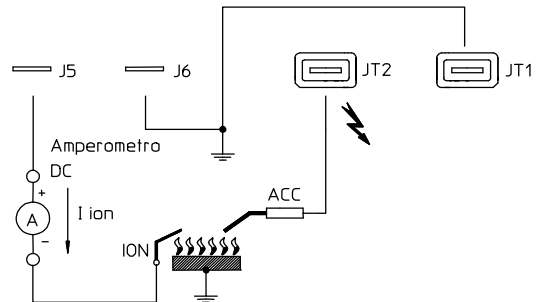

Fig. 6
- the level of the flame signal is sufficient, see Fig.6 for the measuring test;